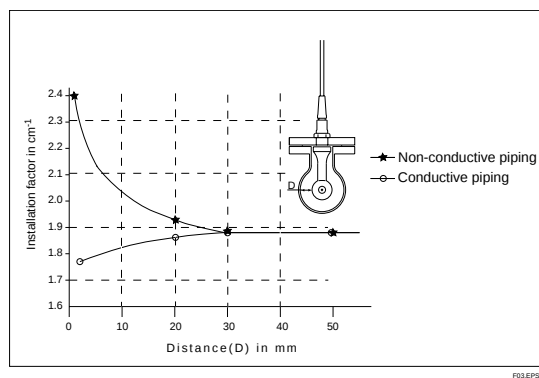

Figure 3 Installation Factor (Reference) for Pipe Mounting
-When a sensor is installed in long piping with a distance (D) between the sensor and piping, as shown in Figure 3:
The installation factor for pipe mounting (reference data when the nominal value is 1.88 cm⁻¹) is shown in Figure 3. Divide the value indicated on the label of the sensor cable by 1.88 and then multiply the quotient by the value obtained from Figure 3. Enter the result.